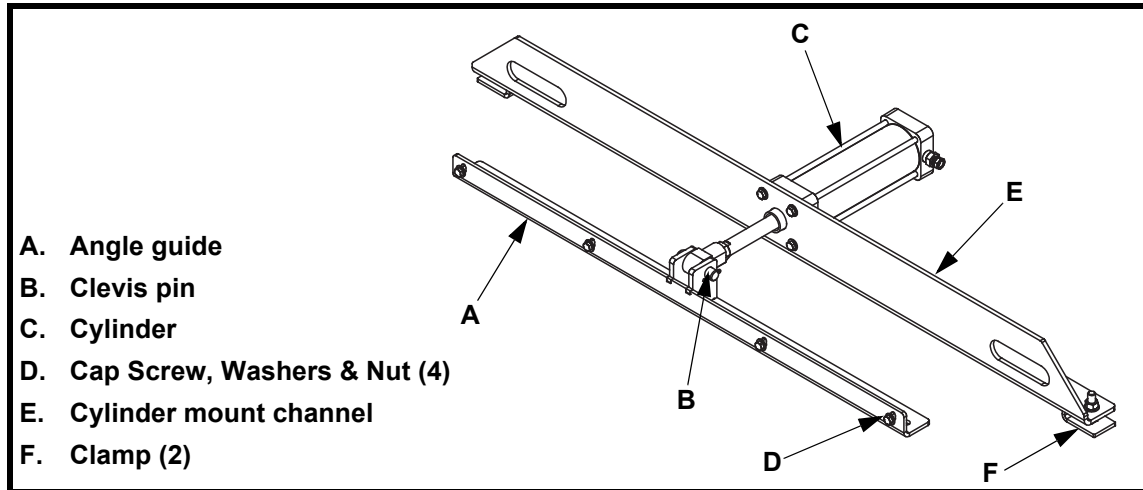

Figure 7. Installing Pneumatic Aligner
2. See Figure 7. Place pneumatic aligner between rail tracks with aligner angle guide (A) next to Railcar Connector.
3. Remove clevis pin (B) to separate angle guide from cylinder (C).
4. Fasten angle guide to frame rail on Railcar Connector using cap screws, washers and nuts (D).
5. Locate cylinder mount channel (E, Figure 7) so its face is 4-7/8 in. (124 mm) from face of angle guide. Slip clamp (F) on each end of cylinder mount channel under rail track.